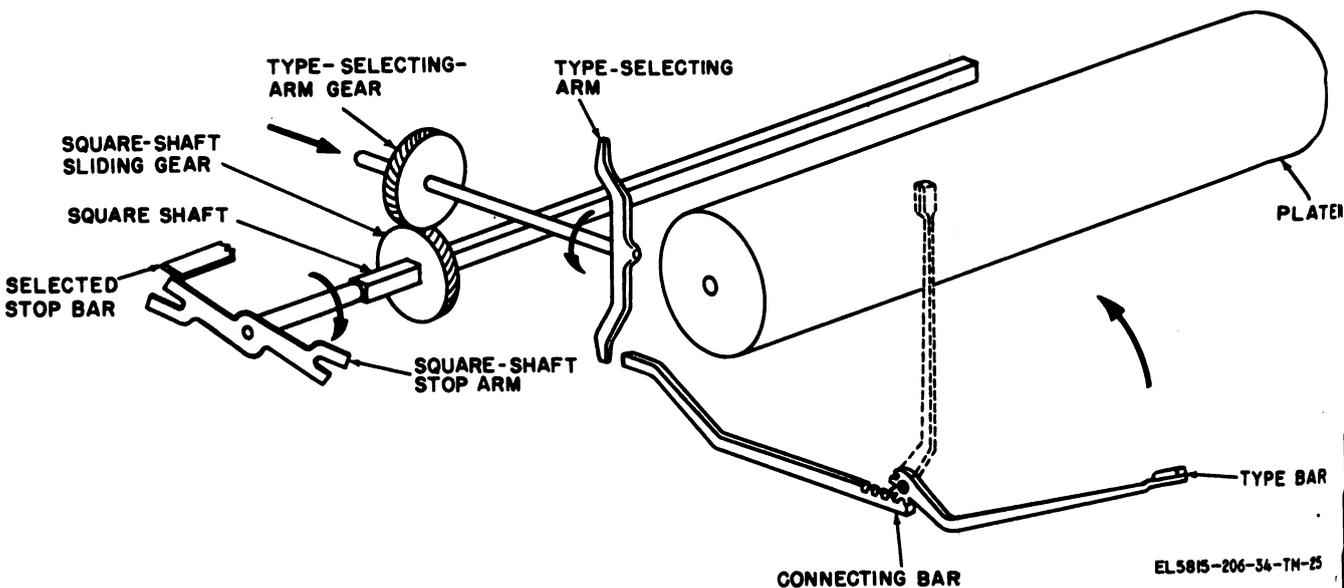

Figure 2-25. Type bar selection, simplified drawing.
a. Character Selection. Twenty-six type bars and their associated connecting bars are mounted in a semicircle in the carriage of the page printer (fig. 2-25 and 3-7). The type-selecting arm is geared to the square shaft and rotates with it (fig. 2-25). The square shaft starts to turn immediately after the transfer operation occurs and stops when it strikes